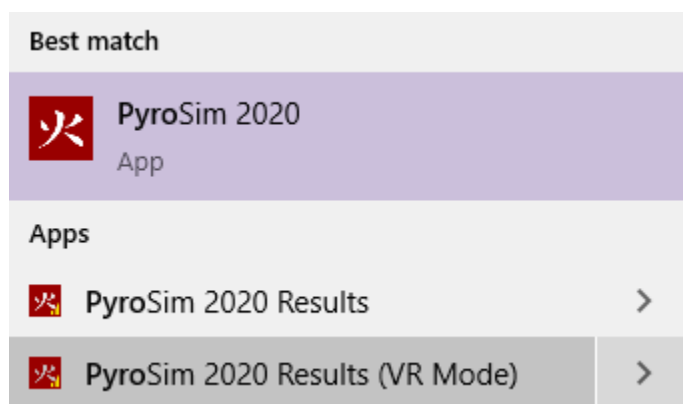

Figure 40. Shortcut Menu
3. While not wearing the headset, run Results using the PyroSim VR Mode shortcut from the Start menu Figure 40.